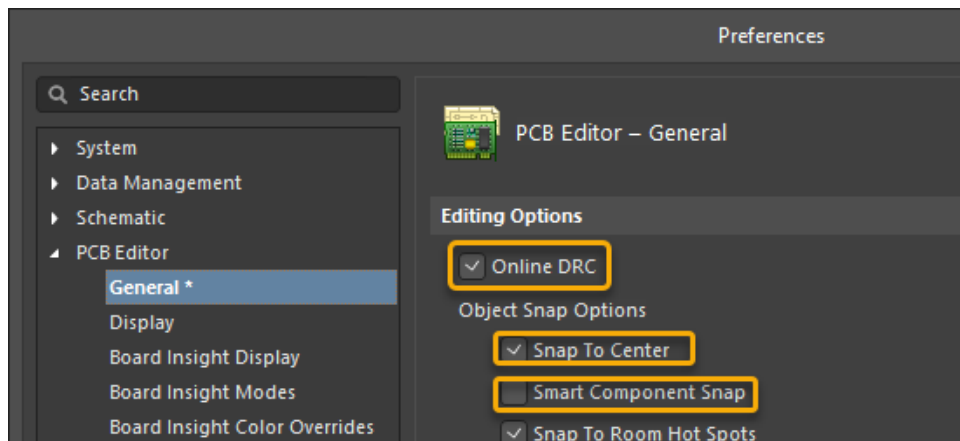

Figure 4. PCB Preferences
18. In the **Preferences - PCB Editor - General** (Figure 4), follow the steps below: